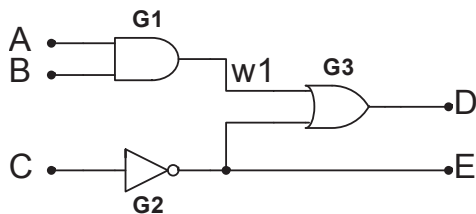

Figure 3: Simple Modeled Circuit
- 3.4. A simple program modeling a circuit (Figure 3) at the gate level is described below as Listings 1,2.